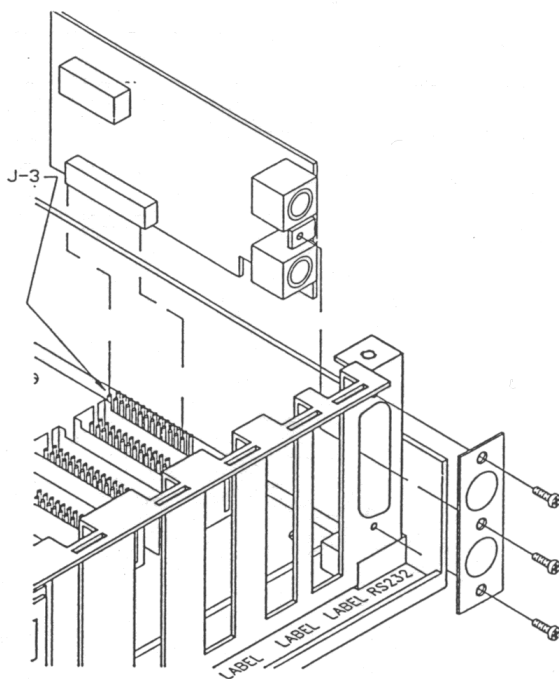

Figure 1-1 Installing the Serial Communication Board
3. Remove the blank plastic cover from the rear panel (Figure 1-1).